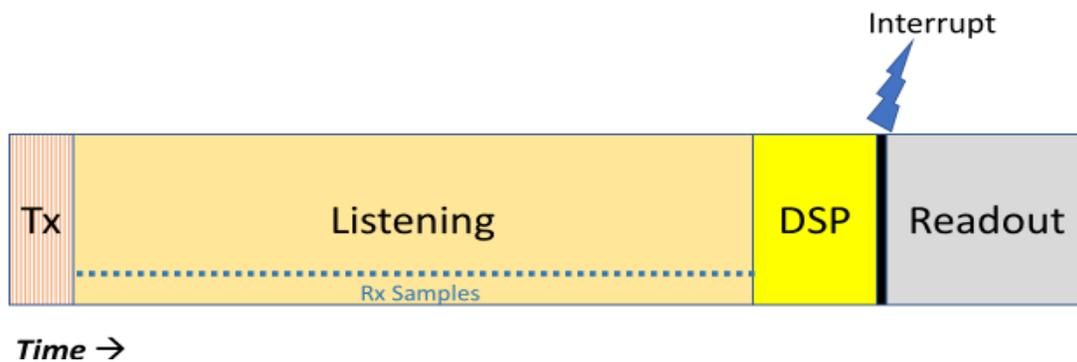

Figure 1 - Phases in a Measurement
A single measurement by the ultrasonic sensor is actually a sequence of several distinct phases, as shown in Figure 1.
3. After the specified number of samples has been stored, the **Signal Processing** phase begins (shown as "DSP" in Figure 1). The sensor will analyze the received data based on the specific sensing algorithm in the firmware being used. In most cases, this includes a calculating "range" value indicating the distance to the detected object.